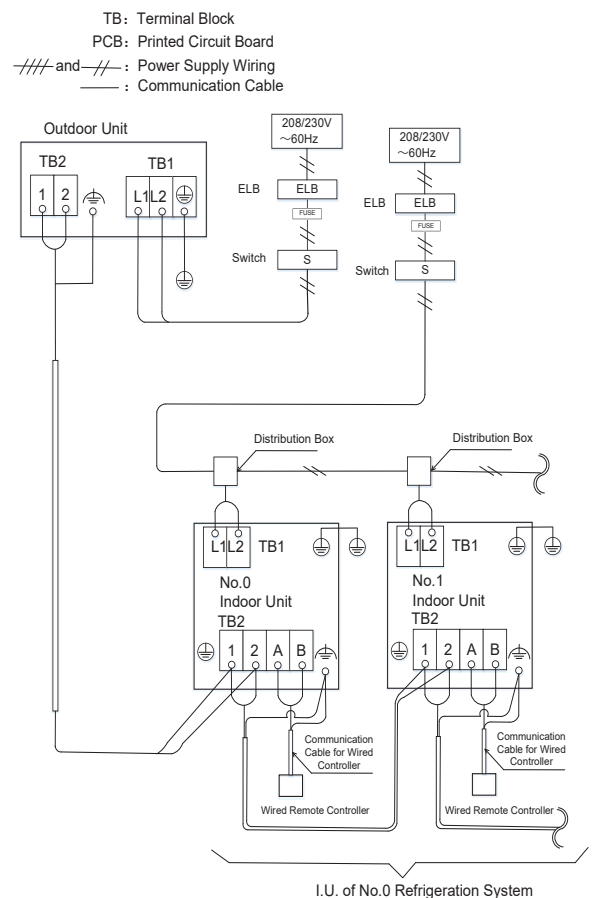

Fig. 9.1 (a) Wiring connection for indoor & outdoor
- (1) Connect the power supply wires to the terminal board in the electrical control box of both outdoor unit and indoor unit. And connect the earth wire to the electrical control box of outdoor unit. In addition, connect the earth wire to earth screw in the electrical control box of indoor unit. Refer to Fig. 9.1
- (2) Connect the wires between the outdoor and indoor units to terminals 1 and 2 on the terminal board. If power supply wiring is connected to 1 and 2 of terminal board, printed circuit board will be damaged.